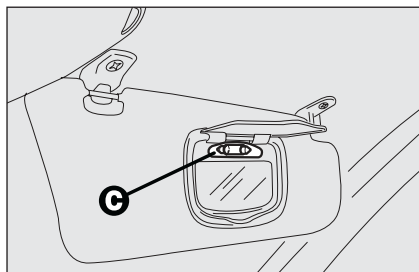

fig. 47
- ☐ replace the bulb **C-fig. 47** releasing it from the side contacts making sure that the new bulb is correctly clamped between the contacts.